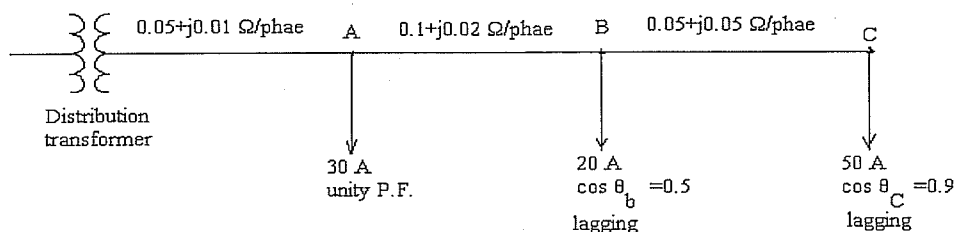

Fig. 1
- b. Consider the three-phase three-wire 240 v secondary system with balanced loads at A, B, and C as shown in fig.1 Determine the following: 6M